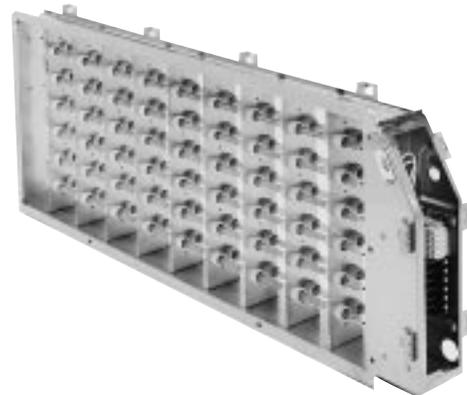

Figure 57.
**Railway and Subway Applications** – Tough rail car industry standards have been developed to overcome the severe vibration, shock, high operating voltages and voltage swings routinely encountered. For more than 30 years, INDEECO has built heaters to meet these standards, using heavy gauge corrosion resistant steel frames and oversized coil and terminal support bushings (Figure 57).